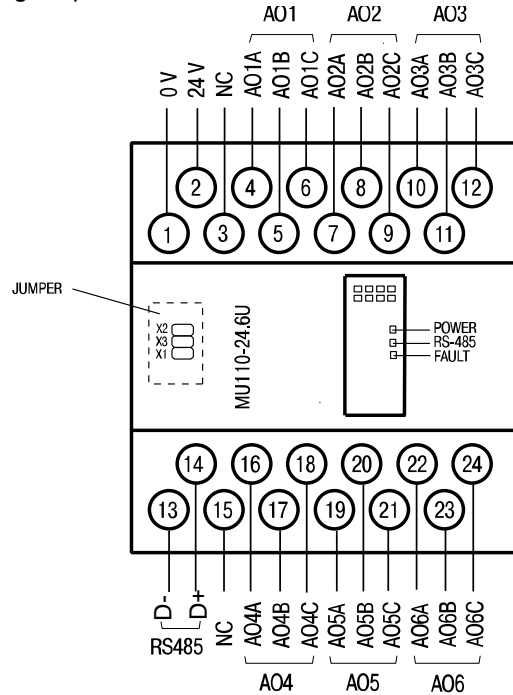

Fig. 4.1 Electrical connections
- The electrical connections are shown in Fig. 4.1 and 4.2, the terminal assignments in Table 4.1.
- Open the front cover (see Fig. 4.1)